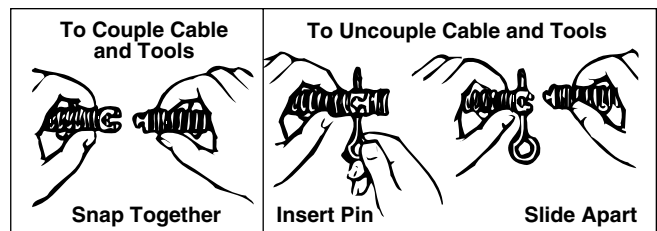

Figure 5 – Coupling and Uncoupling Tools
6. Select and install the proper tool to the end of the cable. The T-Slot Coupler allows the tool to be snapped into the cable coupler (Figure 5). To remove tool, use the pin key to depress the plunger and slide the coupling apart.